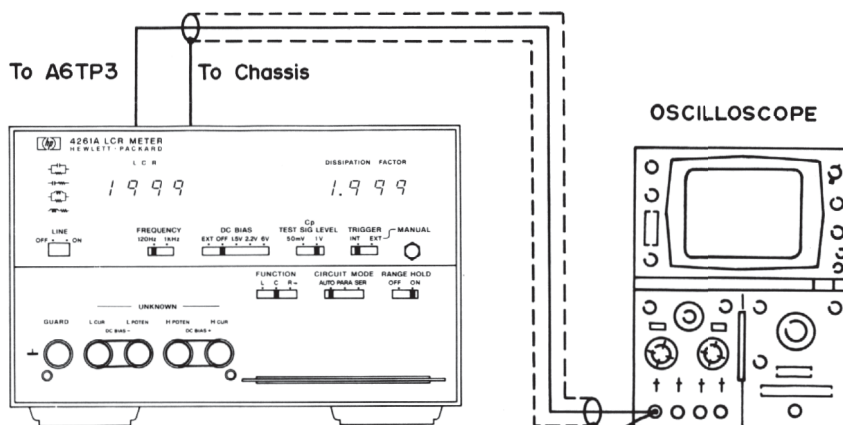

Figure 5-9. A5 Board Final Offset Adjustment.
- a. Connect BNC to alligator clip cable between oscilloscope and 4261A A6TP3 and 4261A chassis (see Figure 5-9).